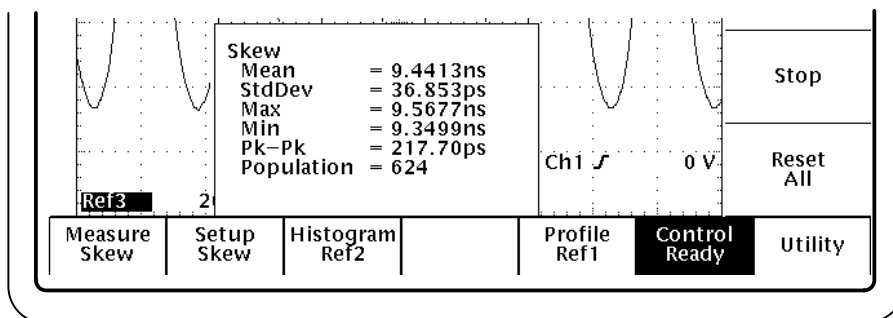

Figure 13: Skew lesson: Statistics readout
6. Wait for the calculations to complete. Figure 13 shows the Statistics readout.